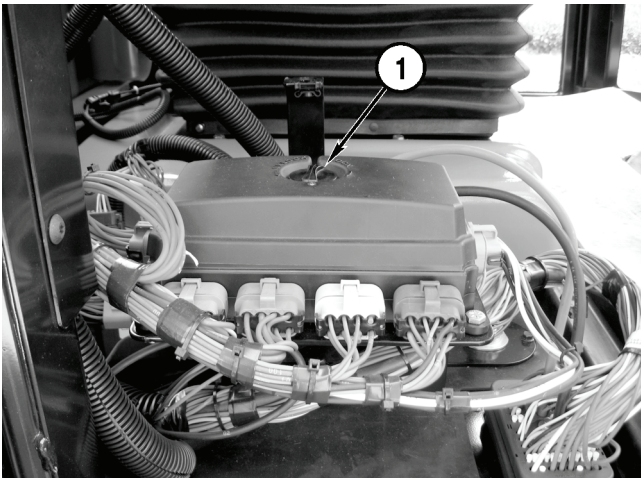

Figure 3-8
The fuse block is located under a service cover inside the right, rear of the cab. The cover is shown removed in **Figure 3-8** for clarity.
2. Turn the knob (**Figure 3-8, 1**) to UNLOCK to access the fuses.